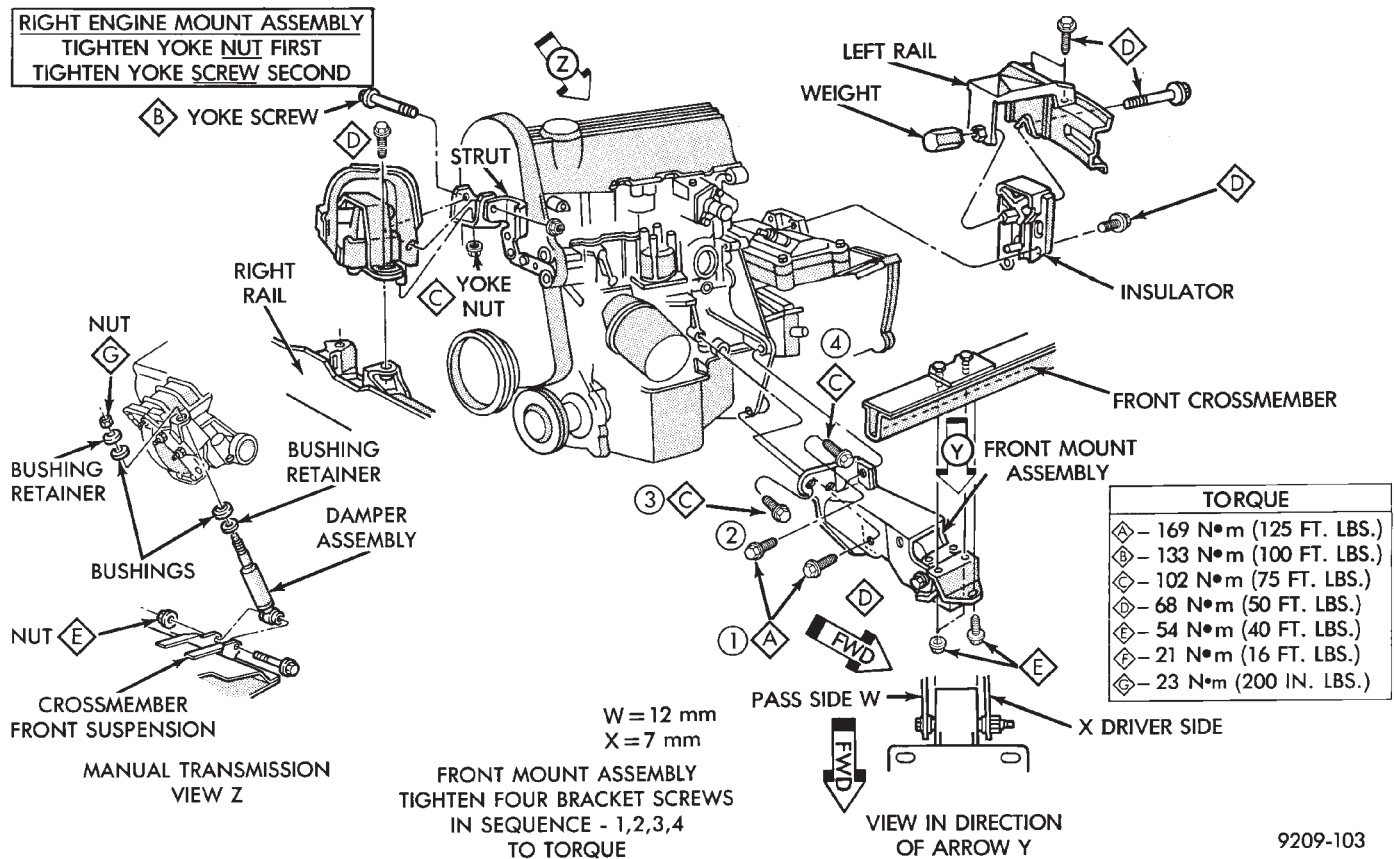

Fig. 3 Engine Mounting
(3) Remove the thru bolt from the insulator assembly. Remove insulator.
(4) Reverse removal procedure for installation. Refer to (Fig. 3) for bolt tightening specifications.
(5) Engine mount adjustment, Refer to Engine Mount Insulator Adjustment of this section.
(1) Support the engine and transmission assembly with a floor jack so it will not rotate.
(2) Remove the thru bolt from the insulator and front crossmember mounting bracket.
(3) Remove the front engine mount bracket to front crossmember screws and nuts. Remove the insulator assembly.
(1) Raise vehicle on hoist and remove left front wheel.
(2) Remove inter splash shield.
(3) Support the transmission with a transmission jack.
(4) Remove the insulator thru bolt from the mount.
(5) Remove the transmission mount fasteners and remove mount.
(6) Reverse removal procedure for installation. Refer to (Fig. 3) for bolt tightening specifications.
(7) Engine mount adjustment, Refer to Engine Mount Insulator Adjustment of this section.